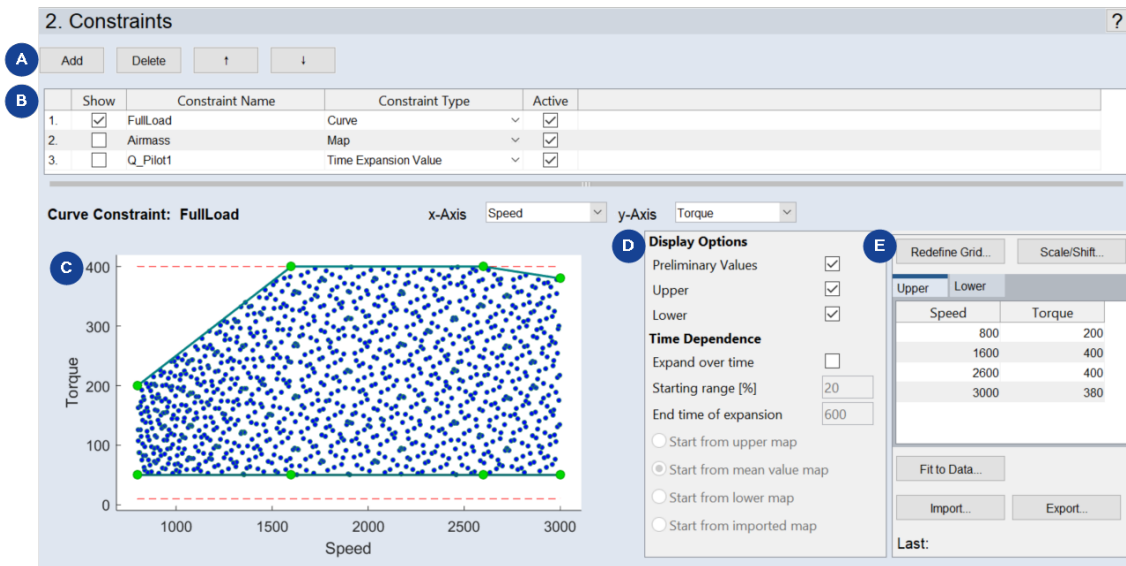

Fig. 6-3: ASCMO-DYNAMIC ExpeDes Step 2: Constraints (Type **Curve**)
1. Click **Add** to create a new constraint (see **A Fig. 6-3: above**).
If a completely specified constraint is selected in the list, the measurement points of the current experiment plan are displayed in a 2D (Curve, see Fig. 6-3: on the previous page) or 3D plot (Map).
The display of the preliminary values is controlled via the **Preliminary Values** checkbox (region **D** in Fig. 6-3: on the previous page). Only a part is shown to ensure a smooth operation. In addition, the thicker points of the grid with which the constraint of areas is controlled are also displayed.
2. In the constraint plot (region **C** in Fig. 6-3: on the previous page), click a point of the constraining line/area and hold the mouse button pressed.
The numeric values of the constraining points are shown in the tables on the right (**Upper** and **Lower** tabs; region **E** in Fig. 6-3: on page 65) and can be processed in these (both in terms of quantity and value); see section "Table for Displaying and Editing the Grid Nodes" below.
The grid nodes can be edited in the tables to the right of the plot (region **E** in Fig. 6-3: on page 65). One tab each is available for the upper and lower constraint.
- i. In the table area (region **E** in Fig. 6-3: on page 65), click **Export**.